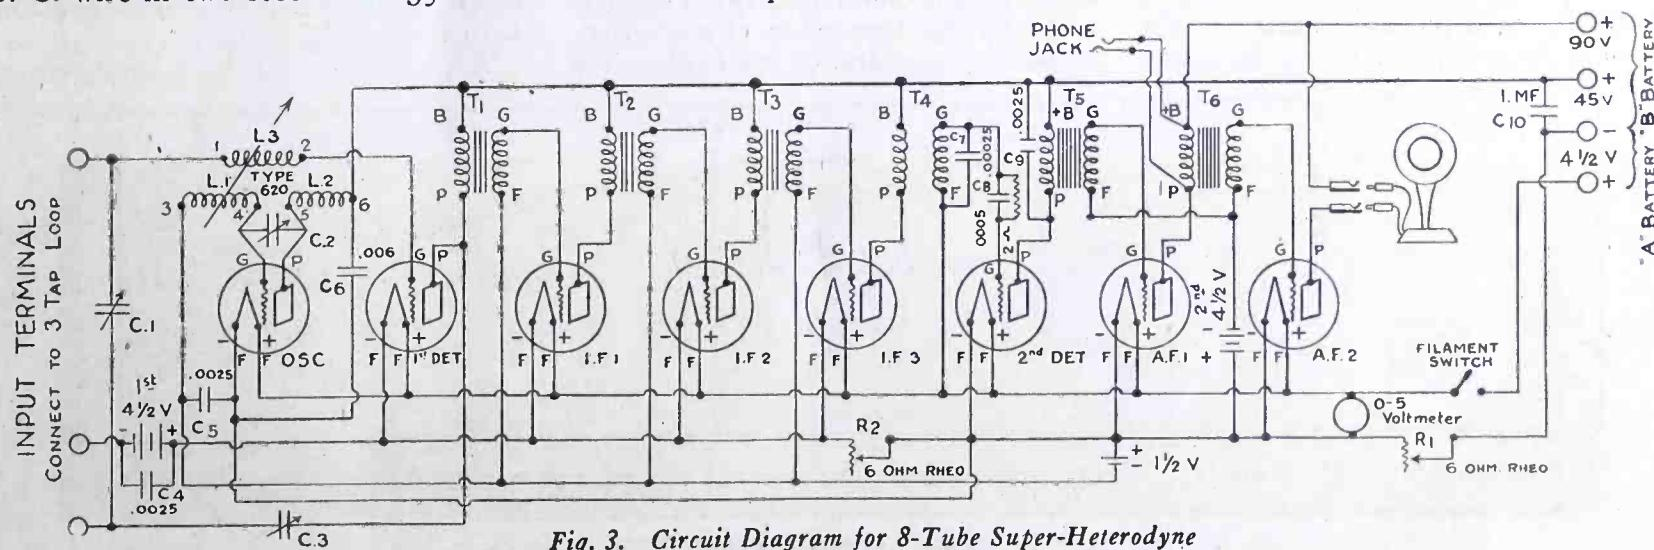

Fig. 3. Circuit Diagram for 8-Tube Super-Heterodyne
FIG. 3 shows the circuit. It is readily analyzed in four sections: (1) The local oscillator for generating the heterodyne frequency and the preliminary detector in which the incoming wave and the locally generated oscillations are mixed (tubes marked OSC and 1st Det. with associated circuits); (2) three stages of 45,000 cycle intermediate frequency amplification (tubes IF_1 , IF_2 , IF_3 and associated transformers T_1 , T_2 , T_3 , T_4 ; (3) the final detector (marked 2nd Det.); and (4) two stages of audio frequency amplification (tubes AF_1 and AF_2 and associated transformers T_5 , T_6).